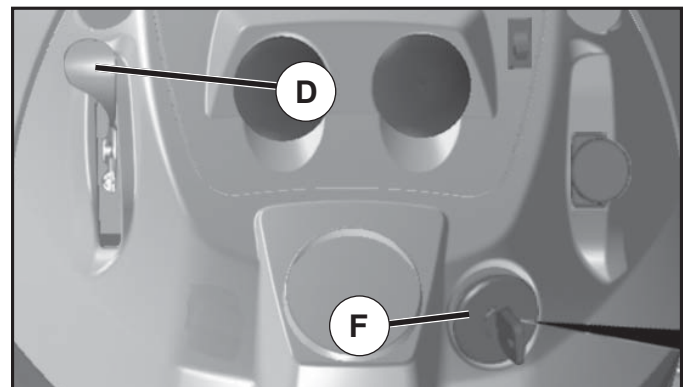

FIG. 6
- Move throttle control (D) between half and full speed (fast) position.
- Turn ignition key (F) to "STOP" position and remove key. Always remove key when leaving tractor to prevent unauthorized use.
### TO USE THROTTLE CONTROL (D) (See Fig.6)